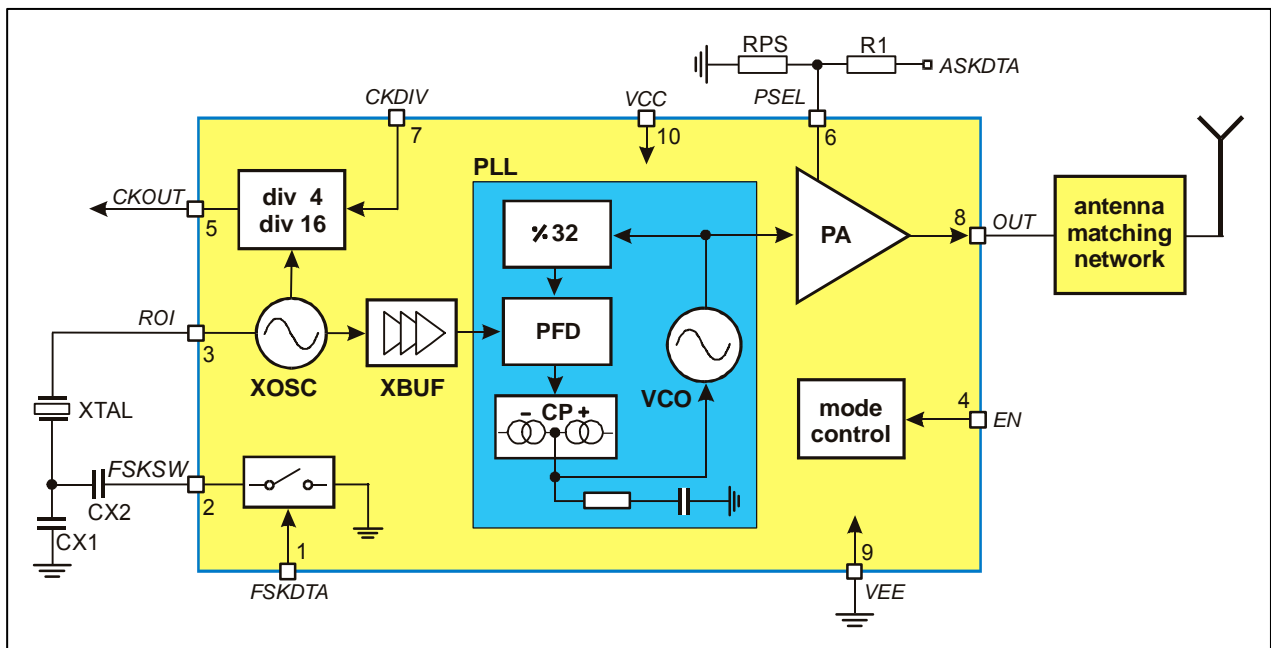

Fig. 1: Block diagram with external components
As depicted in Fig.1, the TH72016 transmitter consists of a fully integrated voltage-controlled oscillator (VCO), a divide-by-32 divider (div32), a phase-frequency detector (PFD) and a charge pump (CP). An internal loop filter determines the dynamic behavior of the PLL and suppresses reference spurious signals. A Colpitts crystal oscillator (XOSC) is used as the reference oscillator of a phase-locked loop (PLL) synthesizer. The VCO's output signal feeds the power amplifier (PA). The RF signal power P_{out} can be adjusted in four steps from $P_{out} = -12$ dBm to +10 dBm, either by changing the value of resistor R_{PS} or by varying the voltage V_{PS} at pin PSEL. The open-collector output (OUT) can be used either to directly drive a loop antenna or to be matched to a 50 Ohm load. Bandgap biasing ensures stable operation of the IC at a power supply range of 1.95 V to 5.5 V.